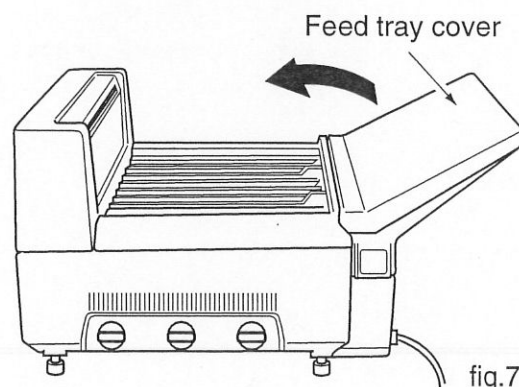

fig.7
- ③ Open the feed tray cover. (fig.7)